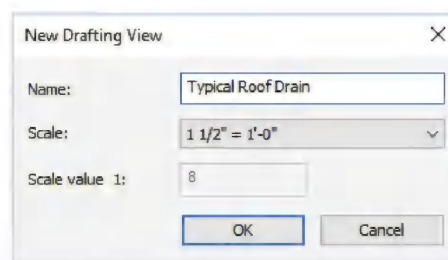

FIGURE 10-5.1 Creating a drafting view
3. Enter the following (Figure 10-5.1):